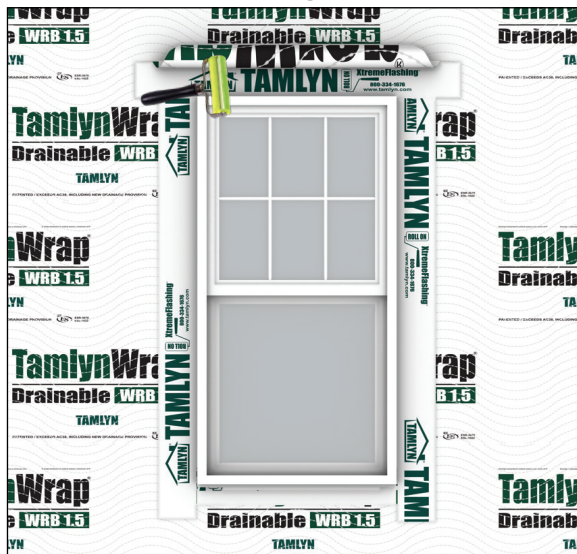

FIG 9:
- Adhere **XtremeFlashing**™ **Tape** to the head flange and to the sheathing. Head flashing must extend beyond jamb flashing on either side. Jamb flashing should not extend above the head flashing. **(FIG 9)**.